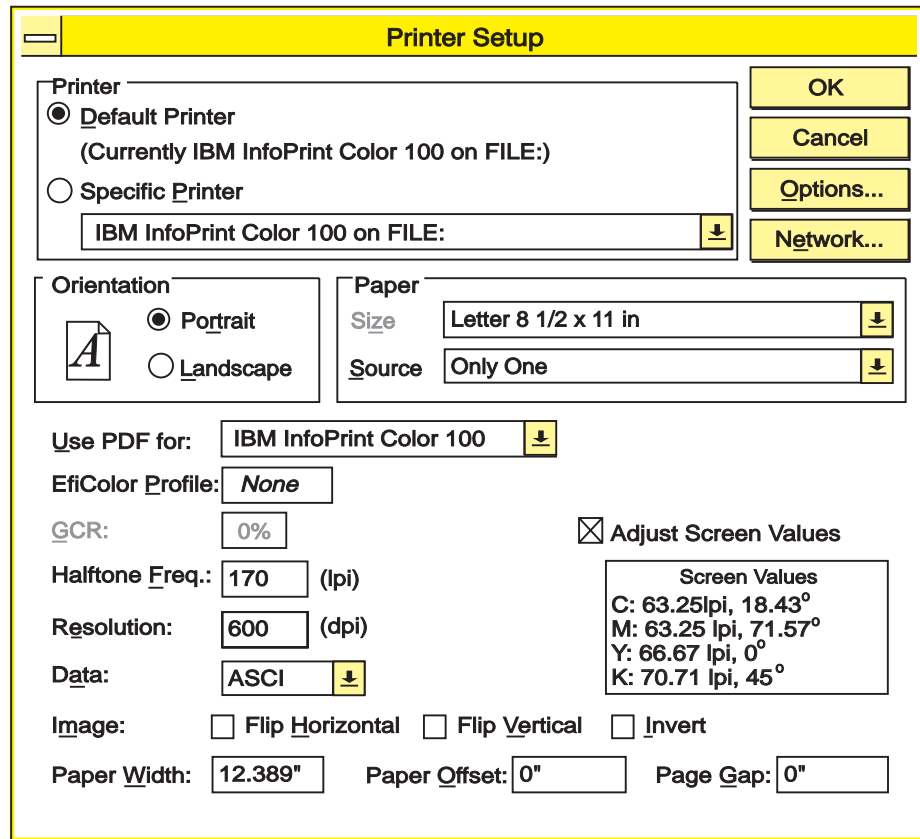

Figure 135. Sample Printer Setup Window from QuarkXPress 3.32
1. Select the **Printer Setup** window, as shown in Figure 135.